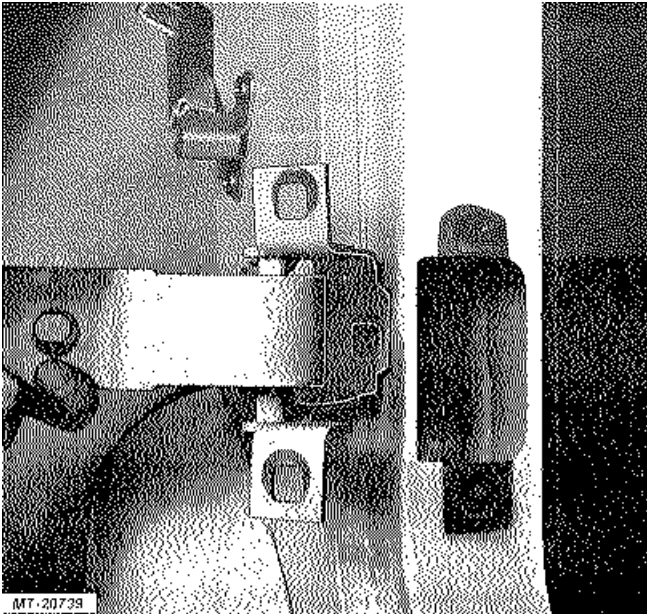

Fig. 9 Removing Cab Door Hinge From Hinge Pillar
6. To simplify door adjustment on reassembly, mark hinge position on hinge pillar with scratch awl before loosening hinges. Remove the three flange head bolts and detach door hinge from hinge pillar (Fig. 9).